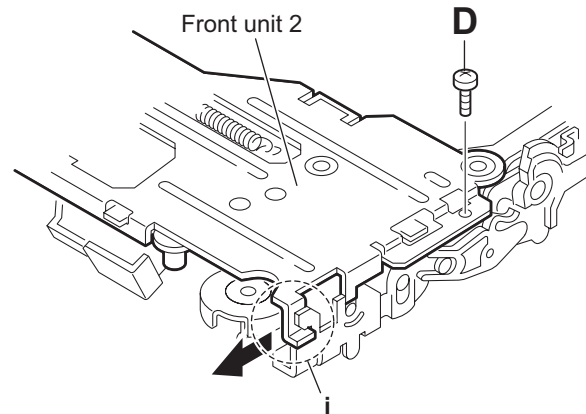

Fig.11
- (2) From the top side of the mechanism section, remove the screw **D** attaching the front unit 2. (See Figs.11 and 12.)
- (3) Move the front unit 2 toward the front to release the joint **i**. (See Figs.11 and 12.)